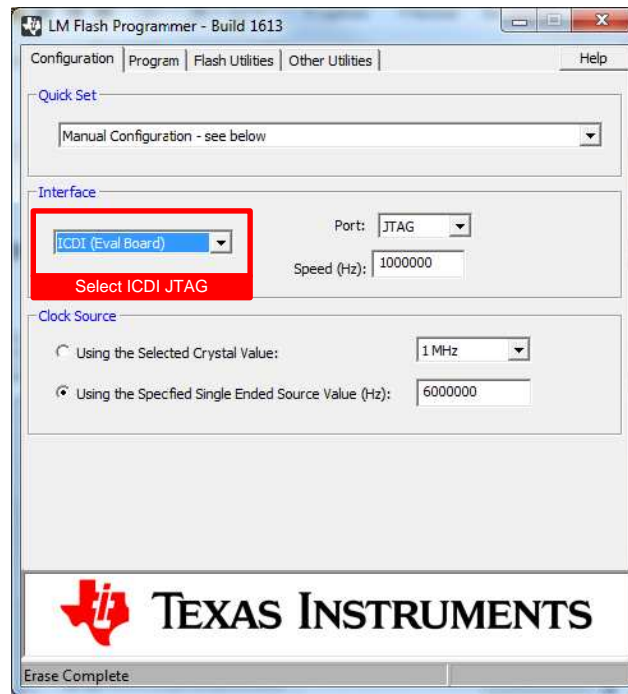
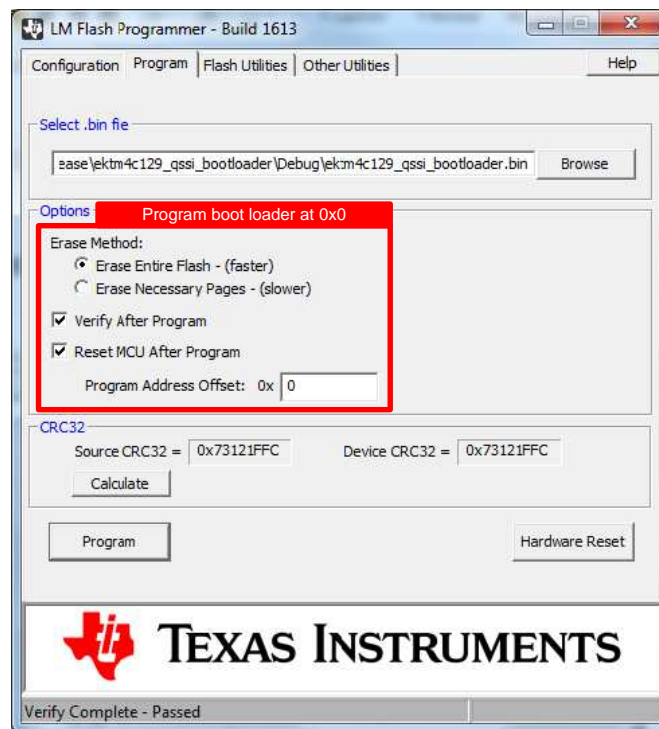

Figure 12. LM Flash Programmer Main Bootloader Programming - Interface Setting (JTAG)
Figure 13. LM Flash Programmer Main Bootloader Programming - Options Settings
- Place jumper J1 on the FLASHCS side. Use the LM Flash programmer to download ektm4c129_qssi_bootloader to an TM4C1294NCPDT Connected LaunchPad kit that has been erased. After performing checks for QSSI and SDRAM memory, the bootloader activates UART0 to download an image to the external QSSI flash. For the setting of the LM flash programmer, see Figure 12 and Figure 13.)